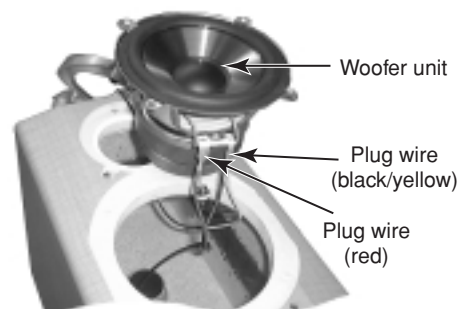

Fig.6
3. Two plug wires (red and black/yellow) connected with the woofer unit are pulled out. (See Fig.6)